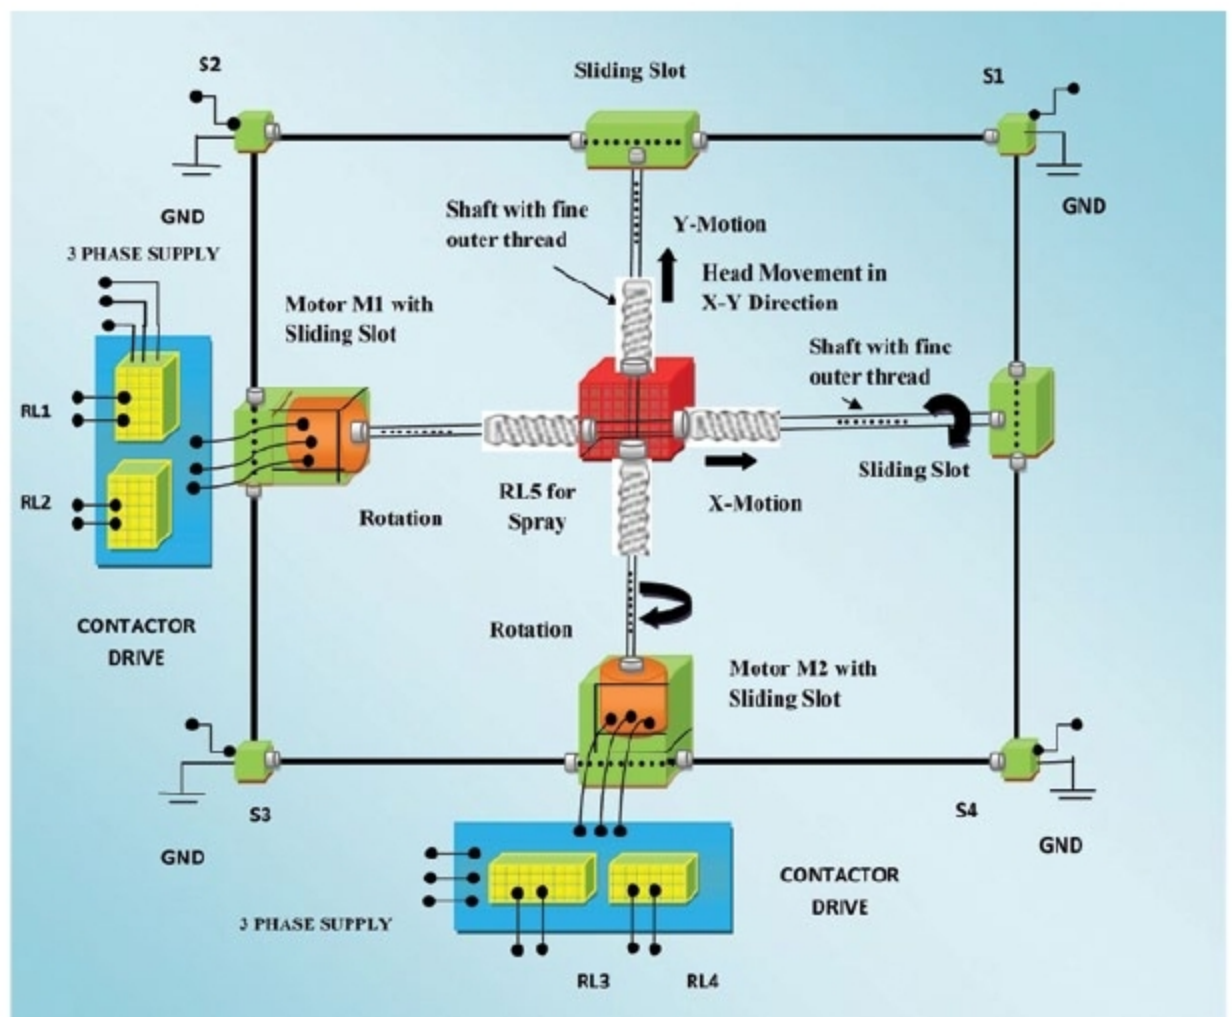
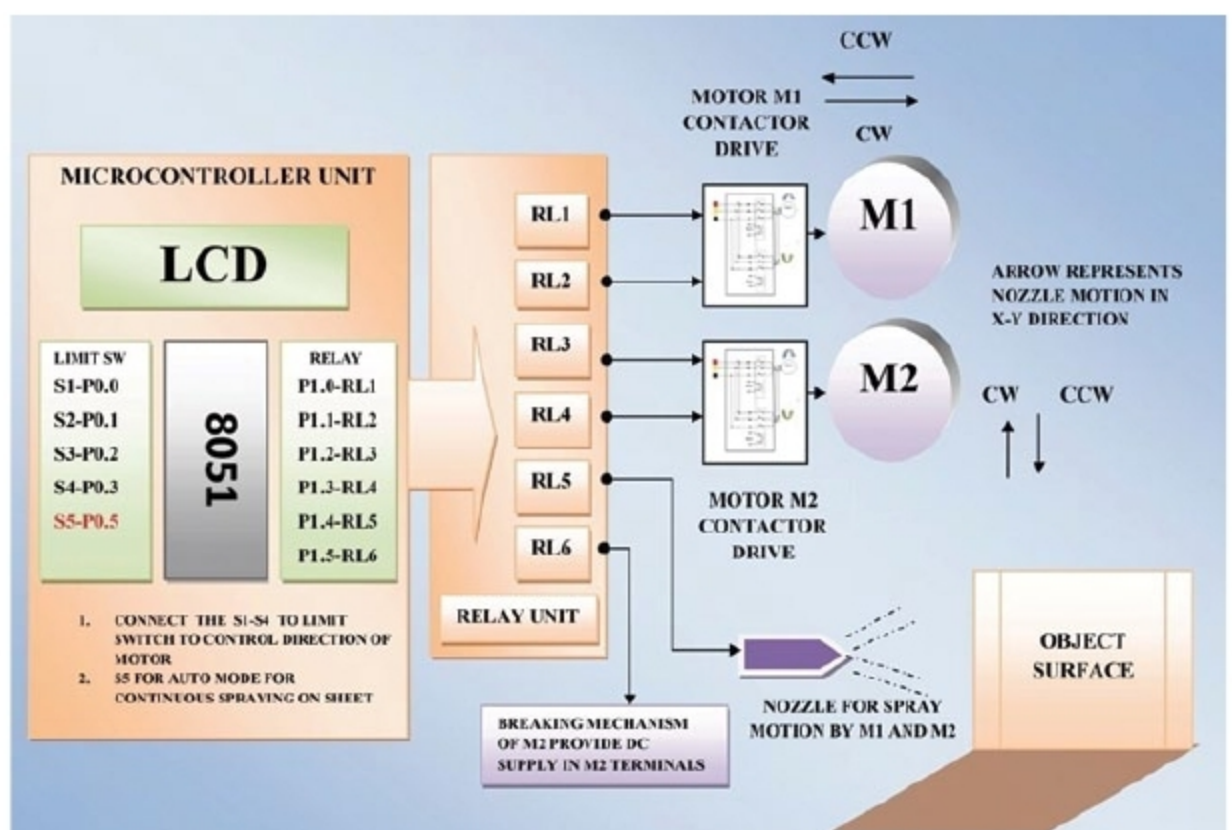

Fig. 1: Setup of thin-film deposition controller using MCU
Fig. 2: Block diagram of thin-film deposition controller using MCU
This project is used to control the movement of the spray head and nozzle in a thin metal or insulation film deposition system. Here, AT89C51 or P89V51RD2 microcontroller (MCU) is used to control the spray head and nozzle in x and y directions. It is an inexpensive, simple and efficient solution for a flat surface. The setup of the thin-film deposition controller using MCU is shown in Fig. 1.
In this technique, the spray head—which contains fine sprays of molten metal for spray coating over a flat surface—moves in x and y directions on the sheet of a given job. It is controlled and guided by an MCU using two motors and four limit switches with mechanical support structure, as shown in Fig. 1. Block diagram of the thin-film deposition controller using MCU is shown in Fig. 2. Flow chart of the circuit is shown in Fig. 3.
The spray head is moved in x and y directions using two 3-phase motors (M1 and M2), controlled by the MCU in clockwise (CW) and counter-clockwise (CCW) directions, as shown in Fig. 1. The motors have shafts with fine threads.